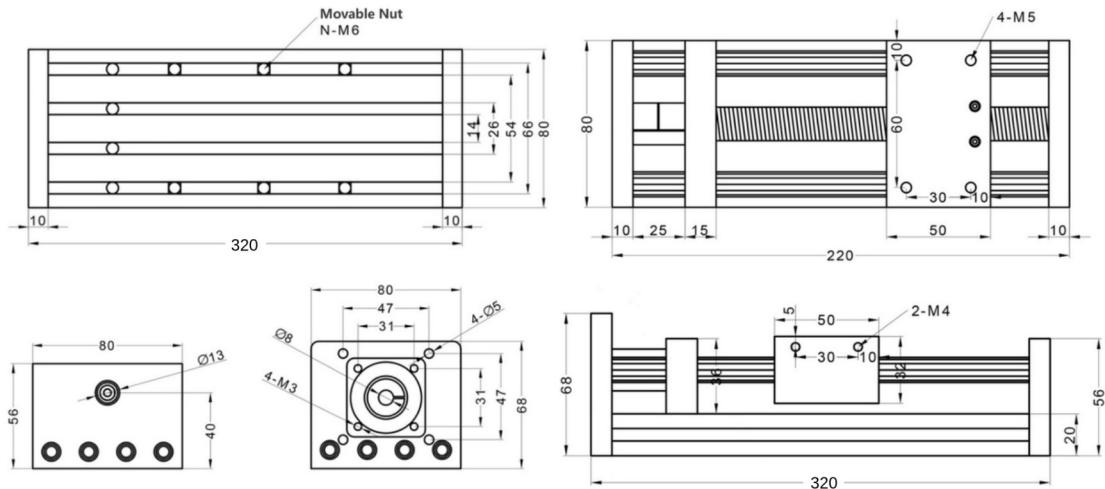

Figure 2.2: CNC rail technical drawings adapted from [4].
**Note:** Technical drawings of the CNC rail are shown in Fig. 2.2. .